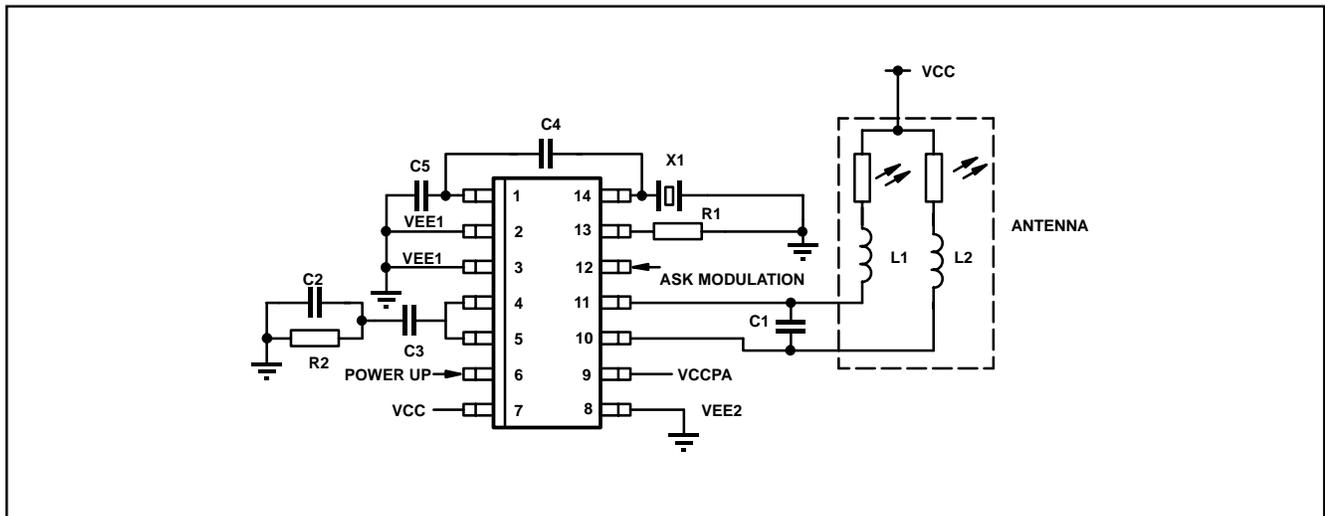

Figure 6 Application diagram
3. Regulatory issues demand that transmission does not take place until the PLL has acquired lock and the VCO is operating at its final output frequency. This requirement demands that pin TXEN is set high at least Txe ms prior to the transmission of any data. This value is dependent on the PLL loop bandwidth and hence on the value of the external loop filter component values. The specification value above is for the loop filter components shown in the applications diagram (Figure. 6)
A single transistor Collpits crystal oscillator provides a reference clock for the PLL. The oscillator is configured for parallel resonant operation in the fundamental mode (typical operating frequency of 3–7MHz). The crystal is connected between pins XTAL2 and VEE1 with external components as shown in Figure 6.
The input signal at pin DATA produces amplitude shift key (ASK) modulation of the VCO output. This is achieved by on-off keying of the bias current in the output power amplifier stage. The output of the PA is a balanced output (pin OUT and OUTB) and is current source driven (open collector outputs). The outputs of which should be D.C. referenced to a positive supply voltage (anticipated to be VCC in most applications). The current source outputs can drive a PCB antenna directly (Figure 6) or if a higher output power is required on limited supply headroom via a simple impedance transforming network. A balanced output stage is used as it automatically suppresses the even order harmonics of the fundamental. In order to obtain the benefits of this output stage it is essential to use a balanced antenna.